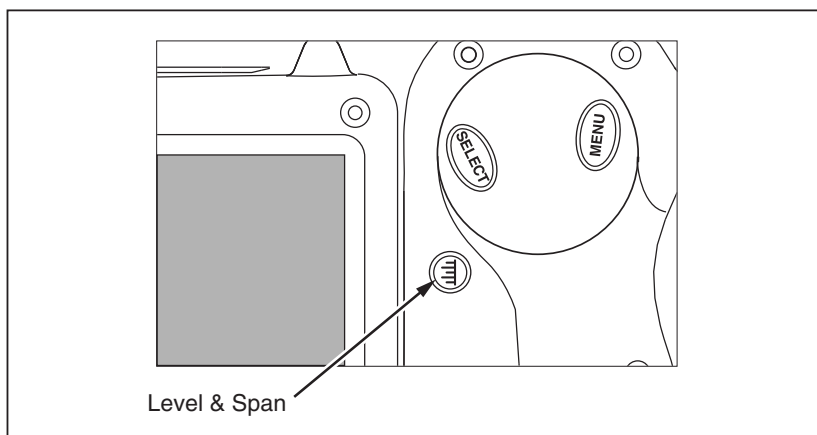

Figure 6. Setting the Level and Span
1. Press  as shown in Figure 6 to automatically set the camera's temperature level and span.